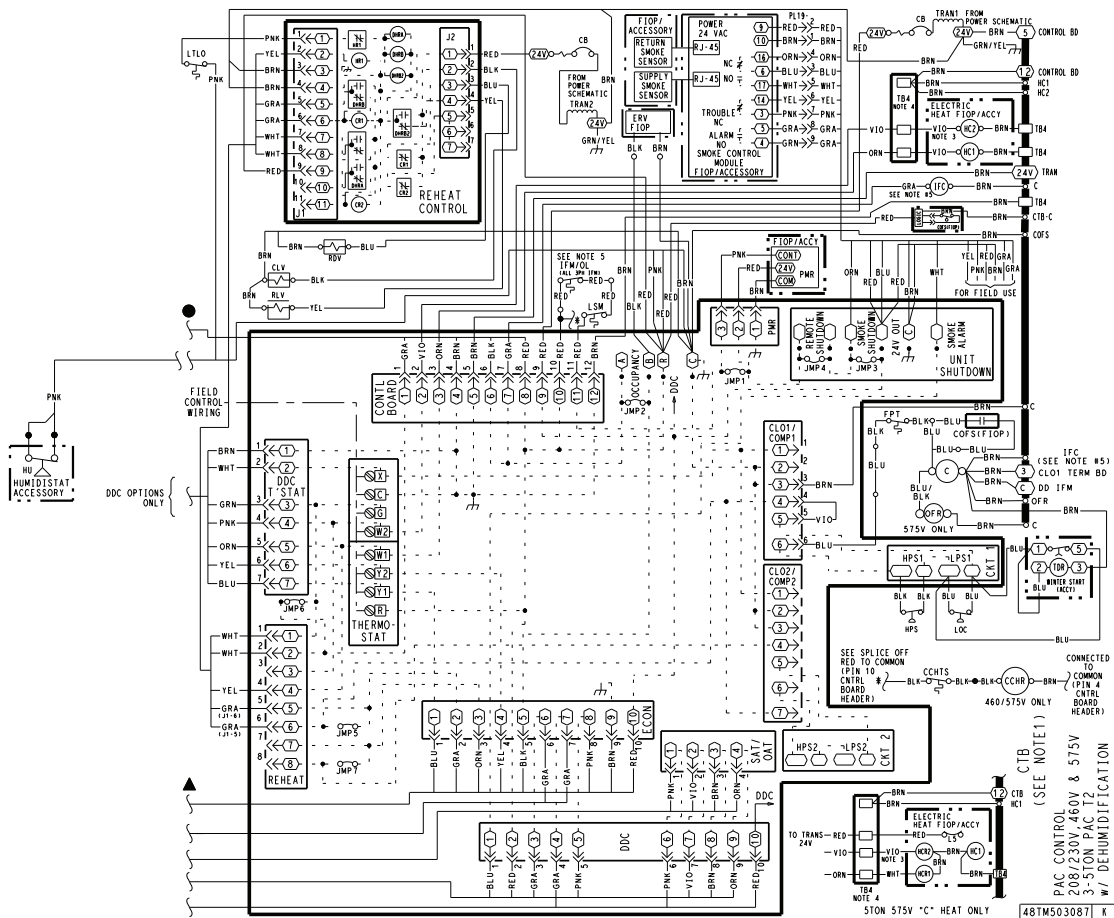

Fig. 34 — Typical Hot Gas Re-Heat Dehumidification System Humidistat Wiring
3. Use wire nuts to connect humidistat cable to two PINK leads in the low-voltage wiring as shown in Fig. 34.